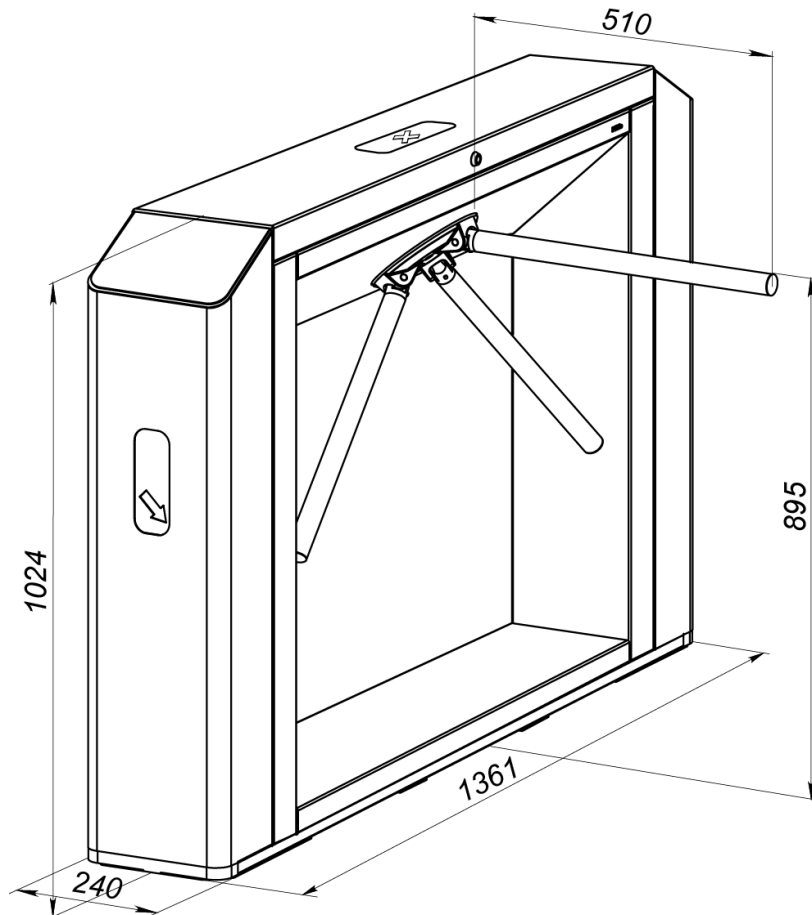
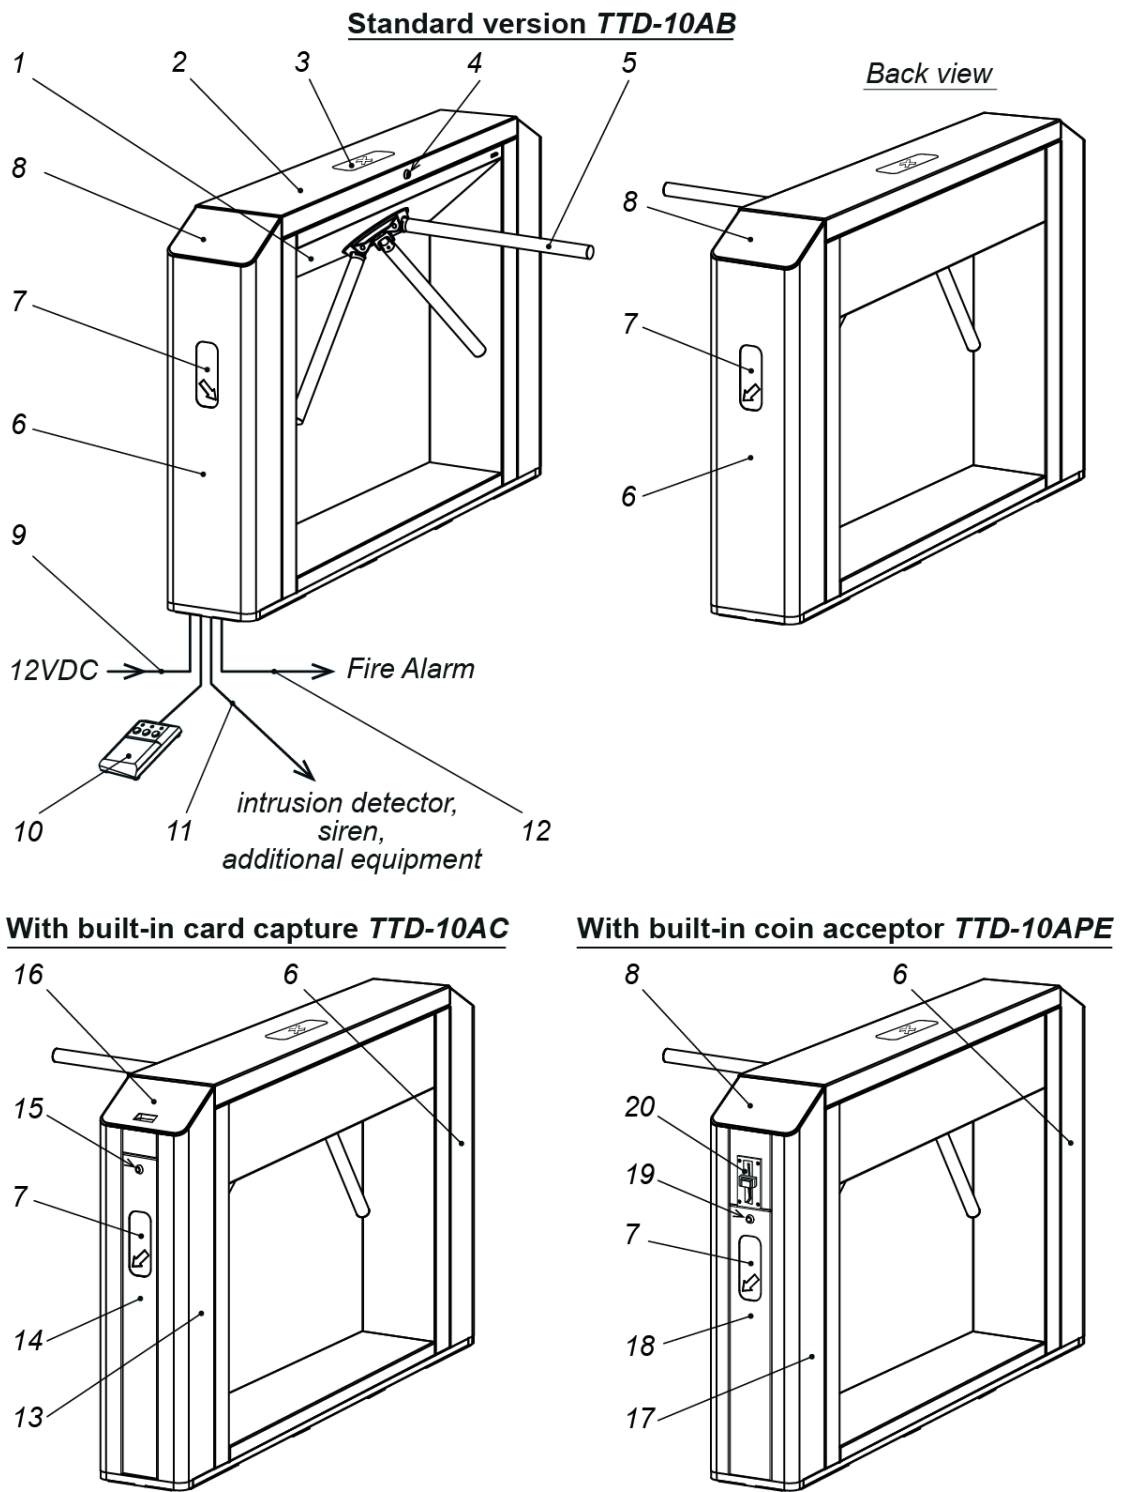

Figure 1. Overall dimensions of the TTD-10A turnstile
Figure 2. TTD-10A turnstile overall view
The design of the turnstile is shown in Fig. 2. Numbers in brackets correspond to Fig. 2. The overall dimensions of the turnstile housing are shown in Fig. 1.
¹ (6) – for standard version **TTD-10AB**, (6) and (13) – for version with built-in card capture reader **TTD-10AC**, (6) and (17) – for version with built-in coin acceptor **TTD-10APE** (ref. Fig. 2).
The customer has an opportunity to choose one of the turnstile options. Various versions, differing in the design of the side modules (6, 13, 17), i.e. presence / absence of the built-in card capture reader / coin acceptor, are shown in Fig.2. Side modules are rigidly fixed to the main housing (1). On top of the side modules are installed side covers (8), which can have a different functional application according to their type (see Table 1). Blocks of constant indication of the direction of passage / prohibition of passage are situated on the side modules of the turnstile (see Fig.4). Access to the four holes in the base of the housing for fixing the turnstile to the mounting surface is provided when removing the side modules.
Main cover indication block (8) are located in the main housing main cover (9) and inform about the current status and a set mode of the turnstile work (see Fig. 2, 3). The indication block has 3 mnemonic indicators: